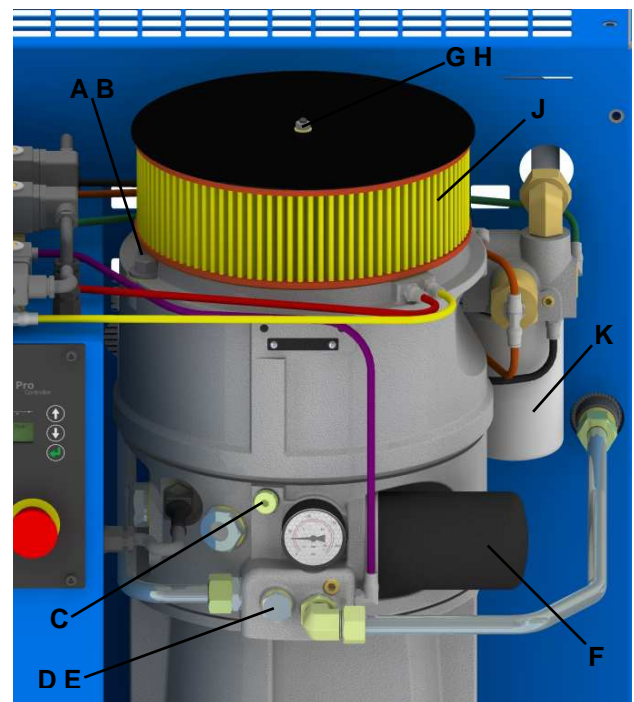

Fig 7.1 Filler Plug, Air Filter, Separator, Oil Drain and Filter
7.5 Oil Filling/Draining (Fig.7.1)
7.6 Oil Filter (Fig 7.1)
7.7 Air Filter (Fig.7.1)
7.8 Oil Separator (Fig.7.1)